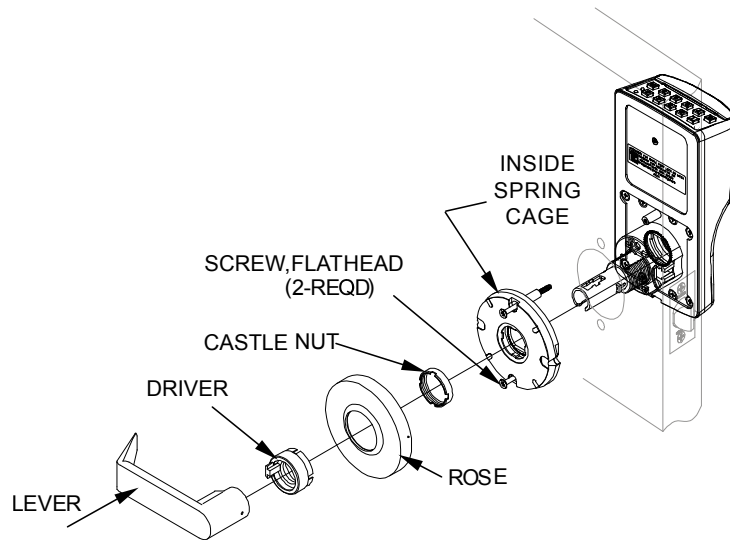

Figure 3 OMNILOCK System with SCHLAGE® Lockset
- Step 4 For SCHLAGE® Locks; remove the Inside Lever and the Driver from the Spindle (Figure 3).